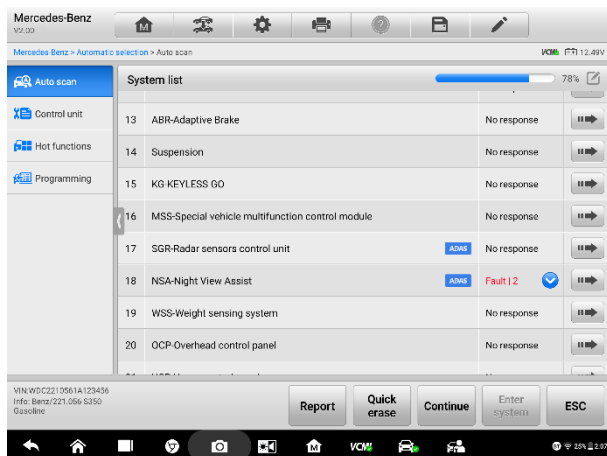

Figure 5-1 Sample System List Screen
3. Tap the gray arrow icon (**Figure 5-1 System list**) on the right of the entry to display a dropdown menu of code results.